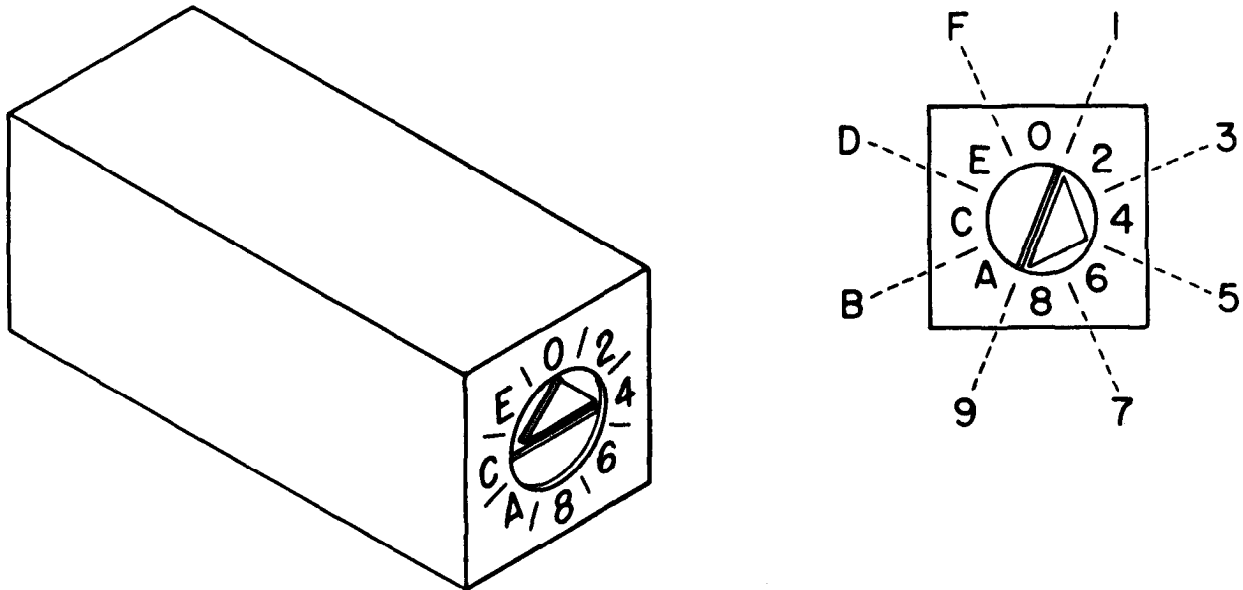

Figure 1-7. Hexadecimal Rotary Switch Operation
c. Hexadecimal Rotary Switches. The face of a hexadecimal rotary switch has alphanumeric characters and hashmarks circled around an arrow-type-pointer dial (fig. 1-7). The hashmarks between the characters represent the missing values. The dial or selector always rotates clockwise. To select a hexadecimal value of
These three kinds of jumpers (fig. 1-7) or any combination of the three are to be found on the PWBs in the CPU. The jumpers are installed on the PWBs by pressing them gently but firmly into the holes provided. They are removed by prying them off carefully with a small flat-bladed screwdriver. The address jumpers (plug-type jumpers are sometimes called wiring harnesses) must be put back on a replacement PWB in exactly the same position as the original. Study the PWB and make a sketch of jumper positions before you remove them. Double check your completed work against the sketch before you reinstall the PWB.